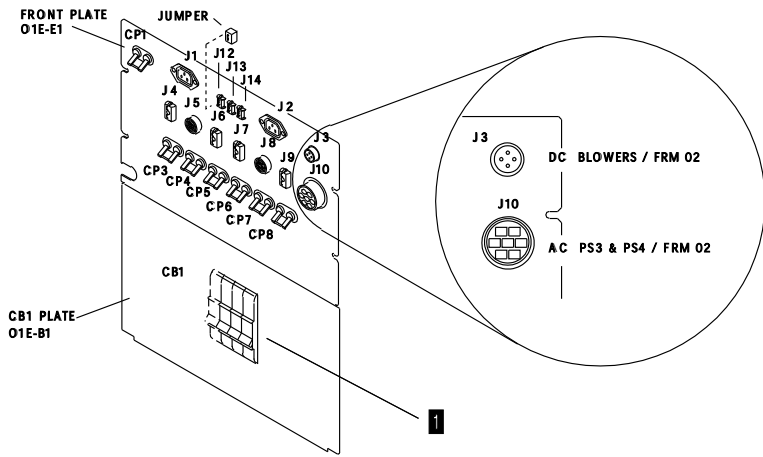

Figure 2-4. Primary Power Box Front Plate (3745)
2. \_\_\_\_ **Switch CB1 to OFF** on the 3745 primary power box (for location, see **1** in Figure 2-4 on page 2-4).
- Step 2. \_\_\_ Verify that the main circuit breaker CB1 is **in the OFF position** at the 3745 primary power box. (See Figure 2-4 on page 2-4.)